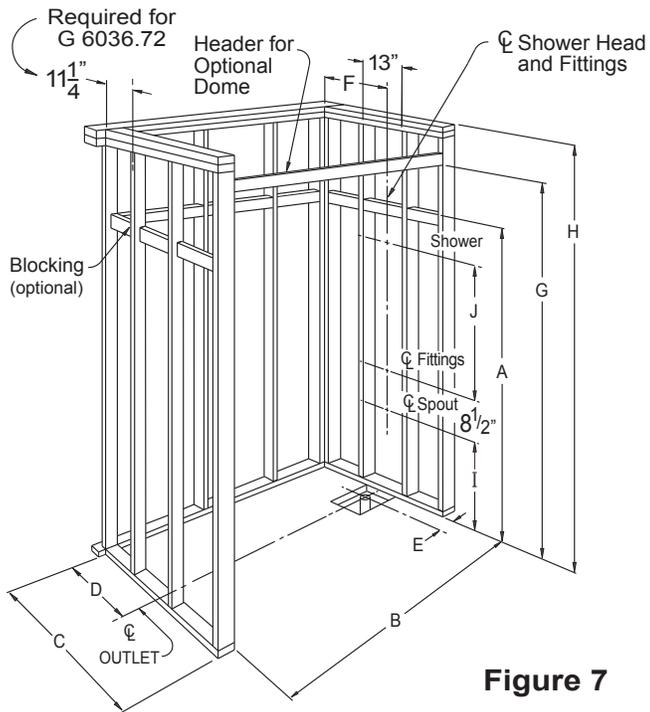

Figure 7
2. Review Figures 7, 8, and 9 to make sure alcove is of proper size. If a fire rated alcove is required, approved finish material must be installed prior to unit installation. Access to drain and supply connections should be provided so that these connections may be made after the unit has been installed. Framing alcove must reflect interior dimensions on diagram to permit installation of unit. Note in diagram the required opening in the floor to provide clearance for the drain fitting and connection.